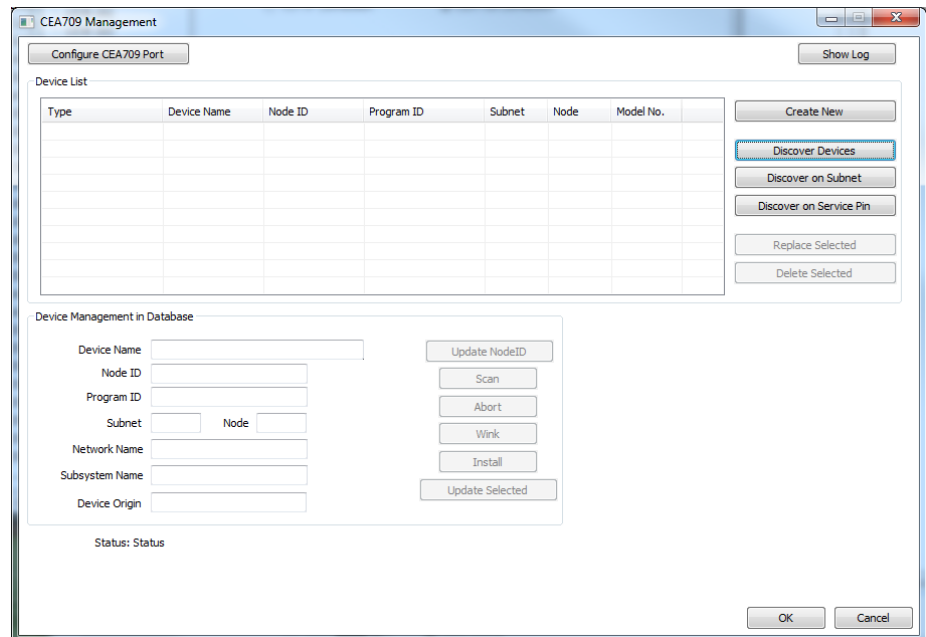

Figure 117: Discover & Install in CEA709 Management dialog
1. Open the CEA-709 management dialog by clicking on the **Discover & Install** button of the dialog appearing after clicking the **Connect to device** speed button. The dialog CEA709 Management as shown in Figure 117 is shown.